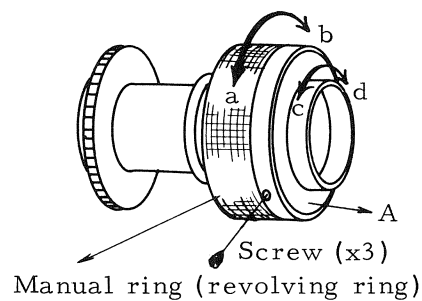

Fig. 24
1. Check and see that the manual ring turns in both a and b directions without catching. (Fig. 24)
2. Turn the manual ring in the direction of b, in Fig. 24, until it stops, and then loosen the three screws.